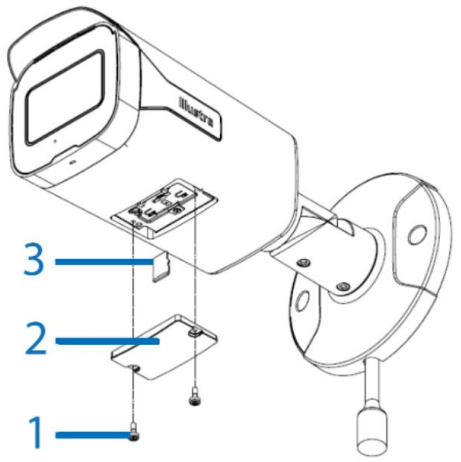

Figure 4
1. Use the T9 secure Torx drive bit to loosen the two M2.5x6mm captive screws (1) (Figure 4) on the SD card cover (2) (Figure 4) and insert or remove the SD card (3) (Figure 4).
1. Use the T9 secure Torx drive bit to loosen the two M2.5x6mm captive screws (1) (Figure 4) on the SD card cover (2) (Figure 4).